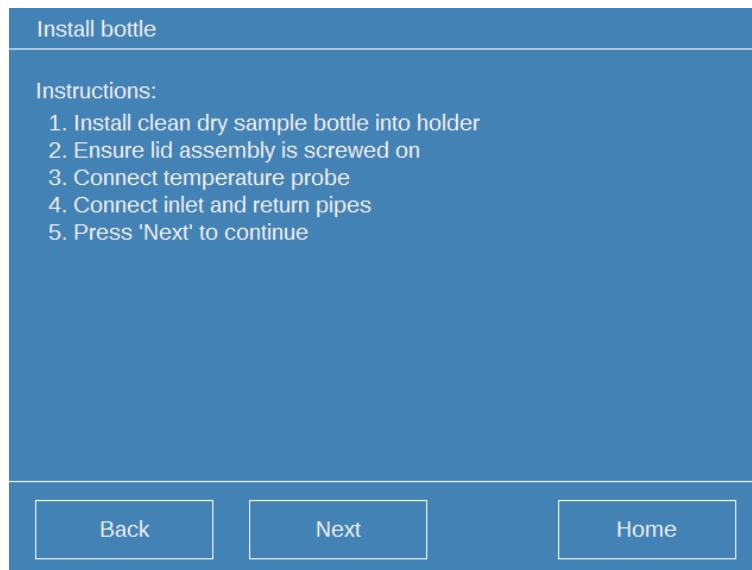

Figure 9-6: New Measurement > Install Bottle - instructions
- When all the gas sample information has been selected, modified or entered, the software guides the operator through the testing process. Follow the onscreen instructions as shown in Figure 9-6 to install the sample bottle and lid assembly.